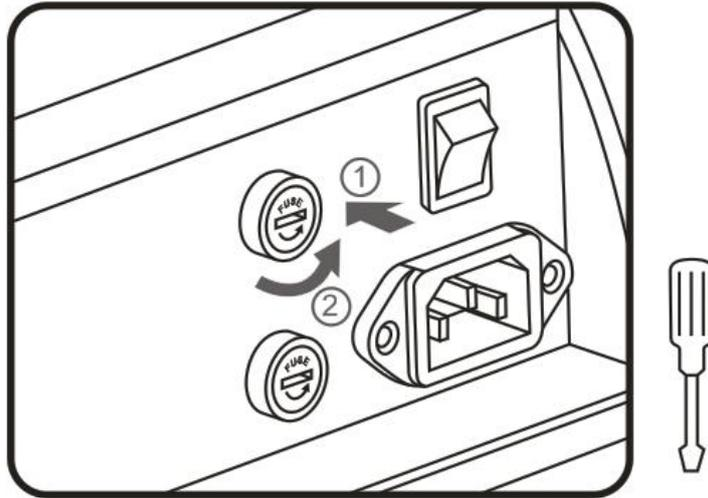

Fig 3-8: Disassembly of Fuse
The replacement of fuse will be completed with a tool of "—" screw driver. As shown in Fig 3-8, put the screw driver into the slot of the fuse socket along direction ① and press it. Rotate the screw driver anti-clockwise as per direction ② and the fuse socket will pop out automatically. Hold the fuse socket to pull it out and then take out the fuse from the fuse socket.